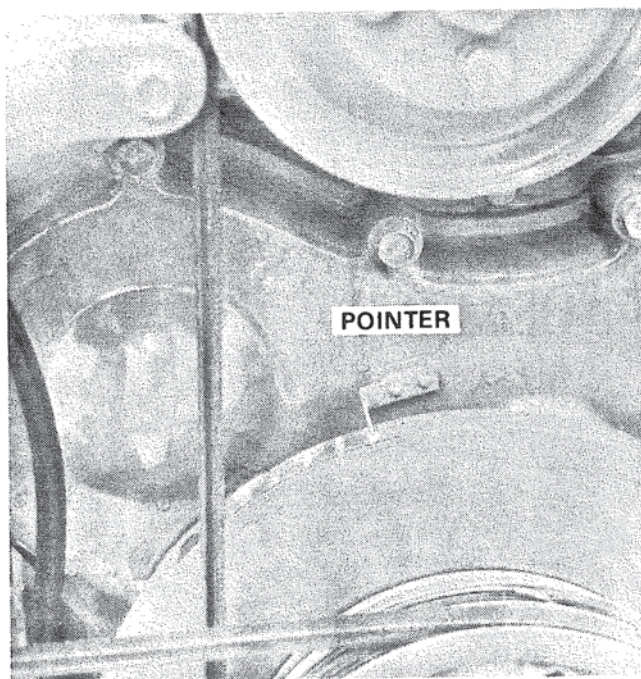

Figure 4. Checking Timing.
3. The pointer should be lined up with the 15° BTDC mark on the torsional dampener. Figure 4.